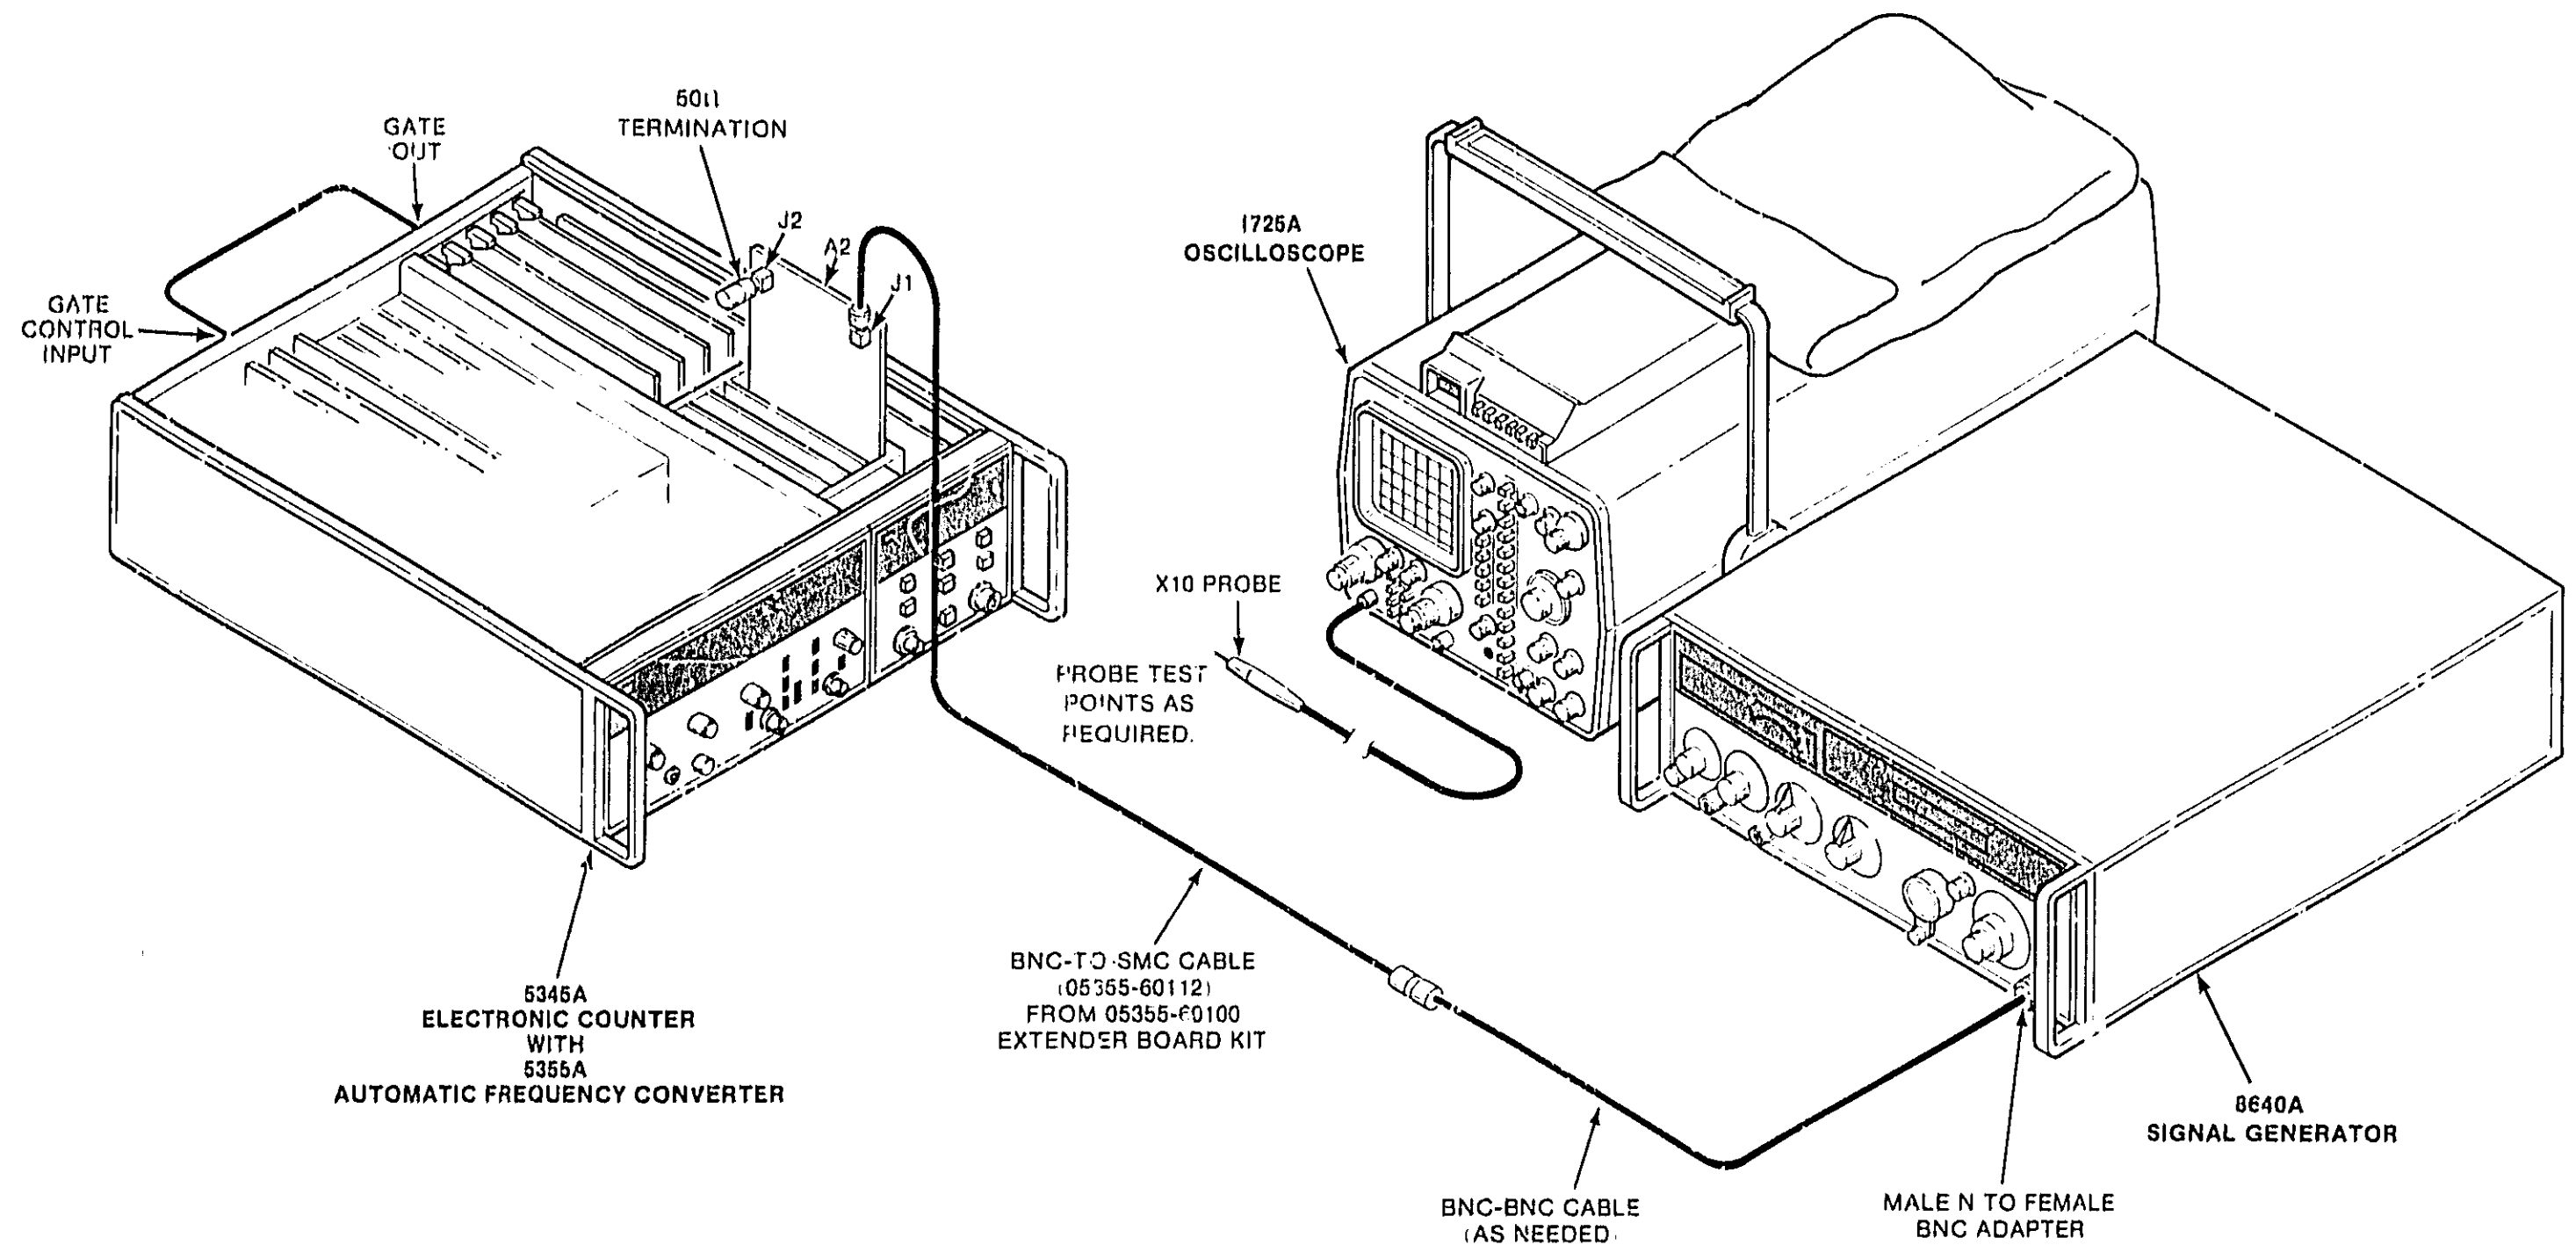

Figure 5-6. AGC Diode Bias Adjustment Setup
- a. Connect the test equipment as shown in *Figure 5-6*.